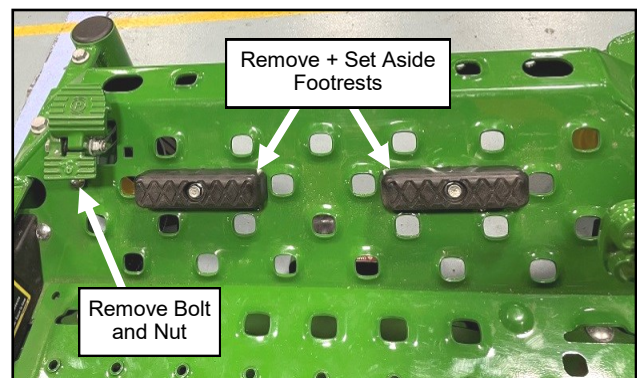

Fig. 1.21 (Remove Footrests & Brake Pedal Bolt)
- 1.21** Remove and set aside footrests (this includes bolts, fender washers, and nuts). Next, remove M10 Carriage bolt and nut found below brake pedal. See Fig. 1.21.